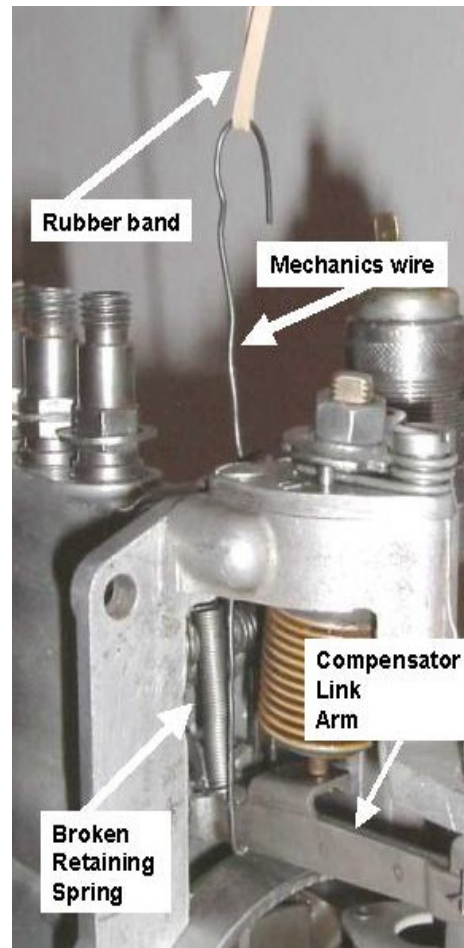

Fig 9. Cutaway view of Method 2 temporary repair.
b. Next insert a piece of wire or paperclip through the screw hole and make a hook in the end, after you pass it through the hole. Hook it around the bottom of the compensator link as shown. (See Fig 9)